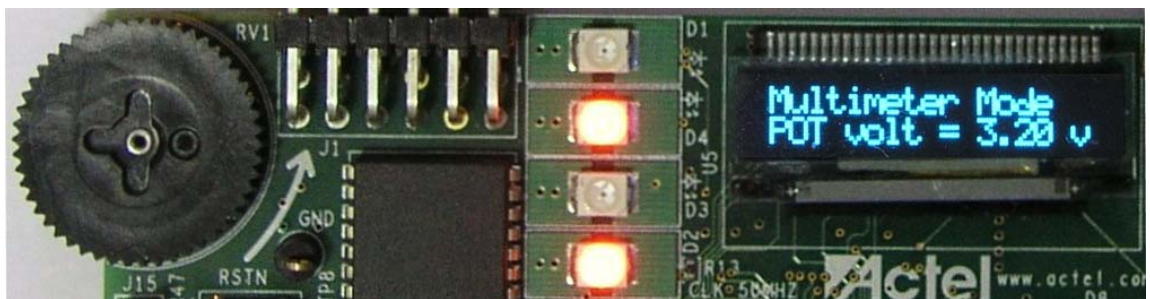

Figure 2-4 · Multimeter Mode – Potentiometer Voltage Measurement
5. Press SW3 to see the voltage measurement of potentiometer. The OLED displays measured voltage from CoreAI (Figure 2-4).